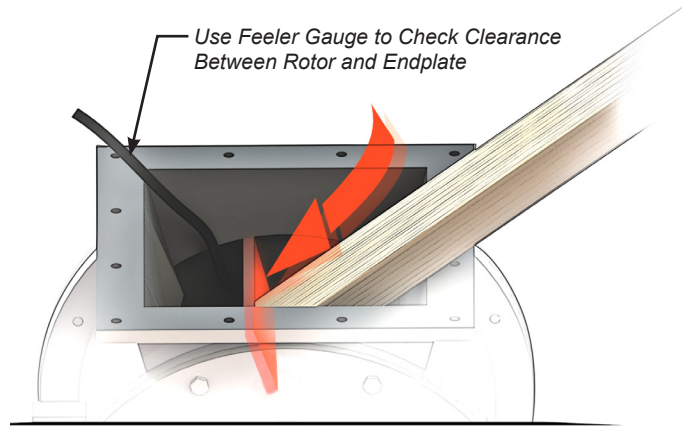

FIGURE 9
- 3. Place a block in the airlock to prevent the rotor from turning unexpectedly (Figure 9).
- 4. Using a feeler gauge, check the clearance between the rotor and the airlock end plates (Figure 9). **There should be a minimum of .003” to .004” standard clearance.**
3. Place a block in the airlock to prevent the rotor from turning unexpectedly (Figure 9)
7. Place a block in the airlock to prevent the rotor from turning unexpectedly (Figure 9)